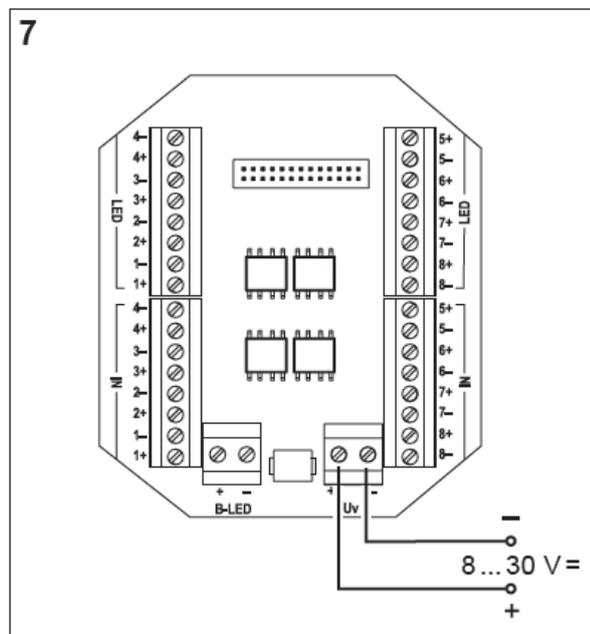

Figure 7
- Route + cable from the power supply into the + terminal of connecting terminal **Uv** on the adapter (Figure 7) and tighten screw terminal.
- Route – cable from the power supply into the – terminal of connecting terminal **Uv** on the adapter (Figure 7) and tighten screw terminal.